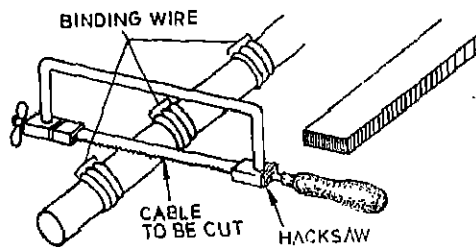

Fig. 27.1 Cutting the cable for end sealing
- (iii) Cut the cable with the hack-saw as illustrated in Fig. 27.1.